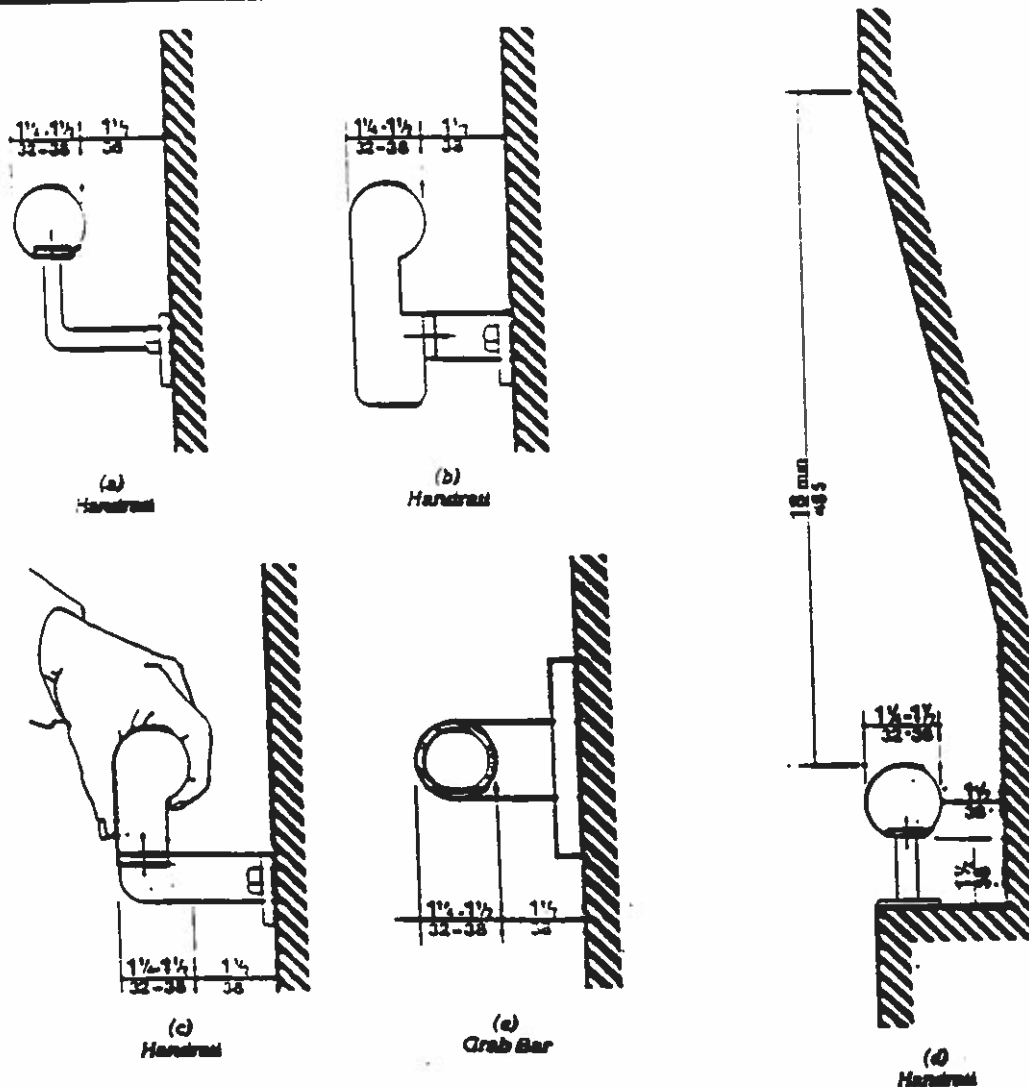

Fig. 39
**4.26.2\* Size and Spacing of Grab Bars and Handrails.** The diameter or width of the gripping surfaces of a handrail or grab bar shall be 1-1/4 in to 1-1/2 in (32 mm to 38 mm), or the shape shall provide an equivalent gripping surface. If handrails or grab bars are mounted adjacent to a wall, the space between the wall and the grab bar shall be 1-1/2 in (38 mm) (see Fig. 39(a), (b), (c), and (d)). Handrails may be located in a recess if the recess is a maximum of 3 in (75 mm) deep and extends at least 18 in (455 mm) above the top of the rail (see Fig. 39(d)).